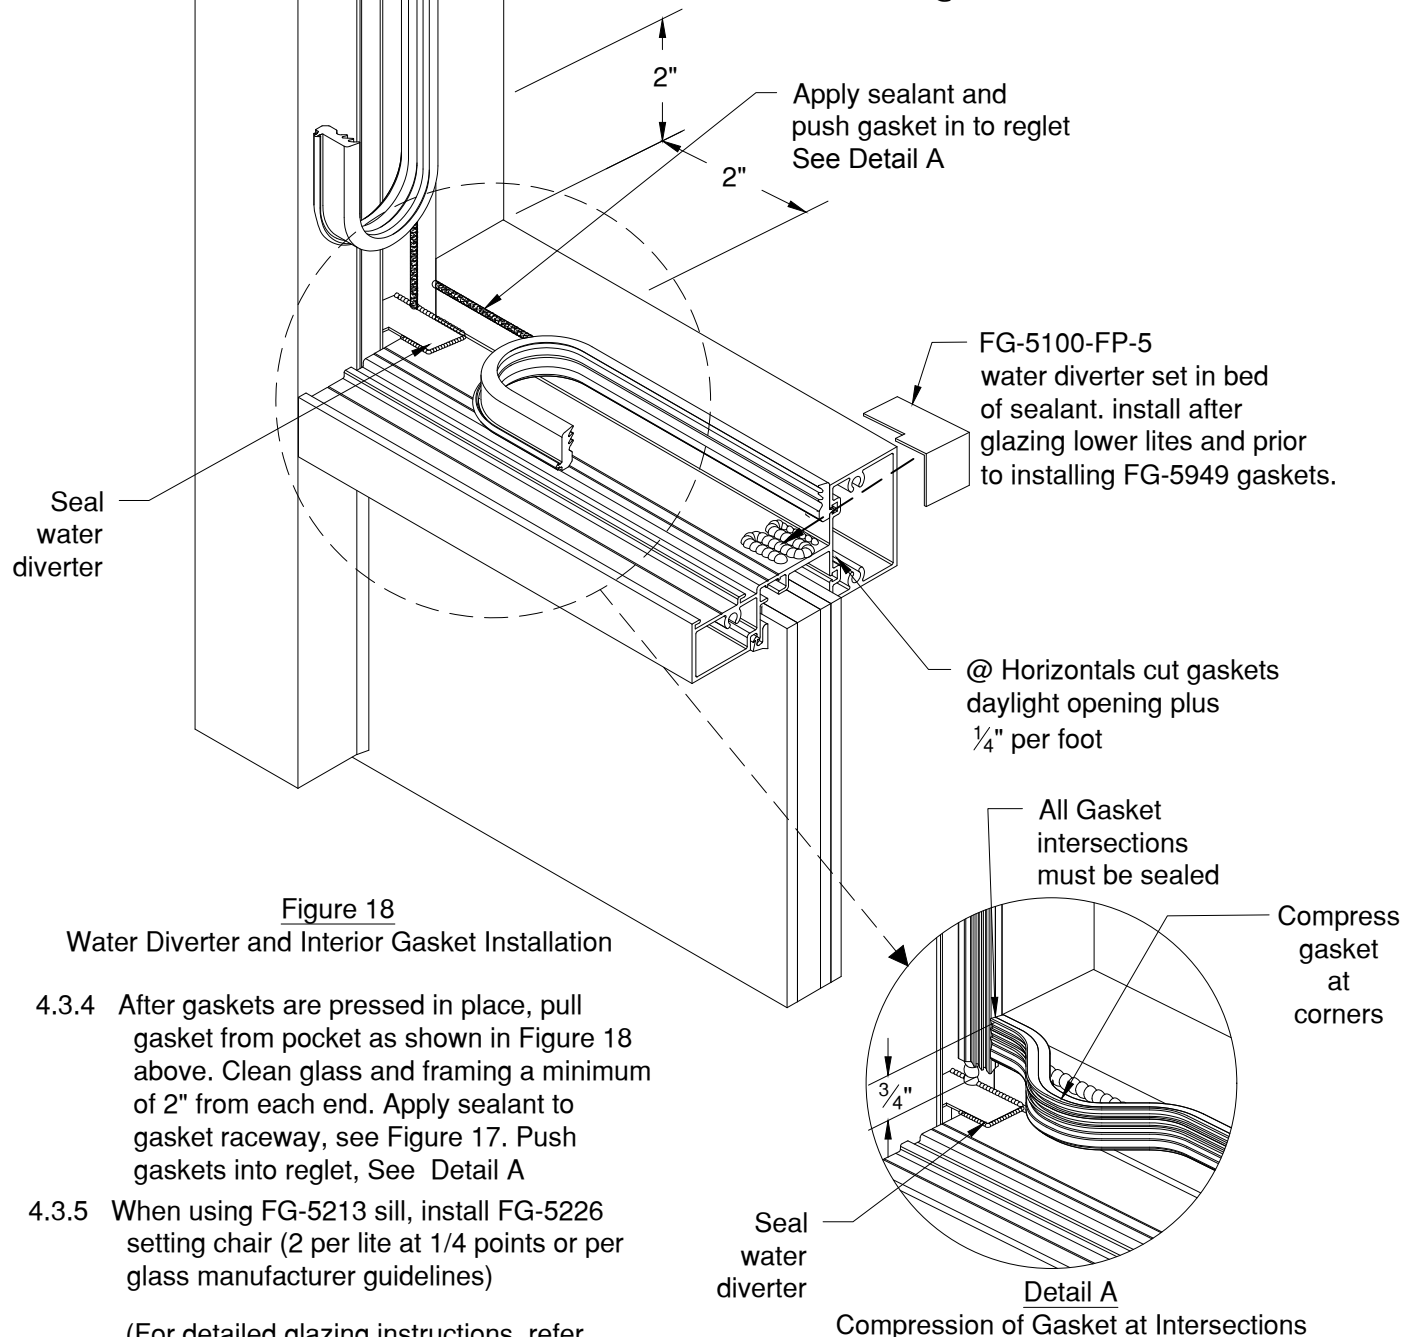

Figure 18
4.3.2 Install water diverters as shown on at Figure 18 after lower lite is in position.
4.3.4 After gaskets are pressed in place, pull gasket from pocket as shown in Figure 18 above. Clean glass and framing a minimum of 2" from each end. Apply sealant to gasket raceway, see Figure 17. Push gaskets into reglet, See Detail A